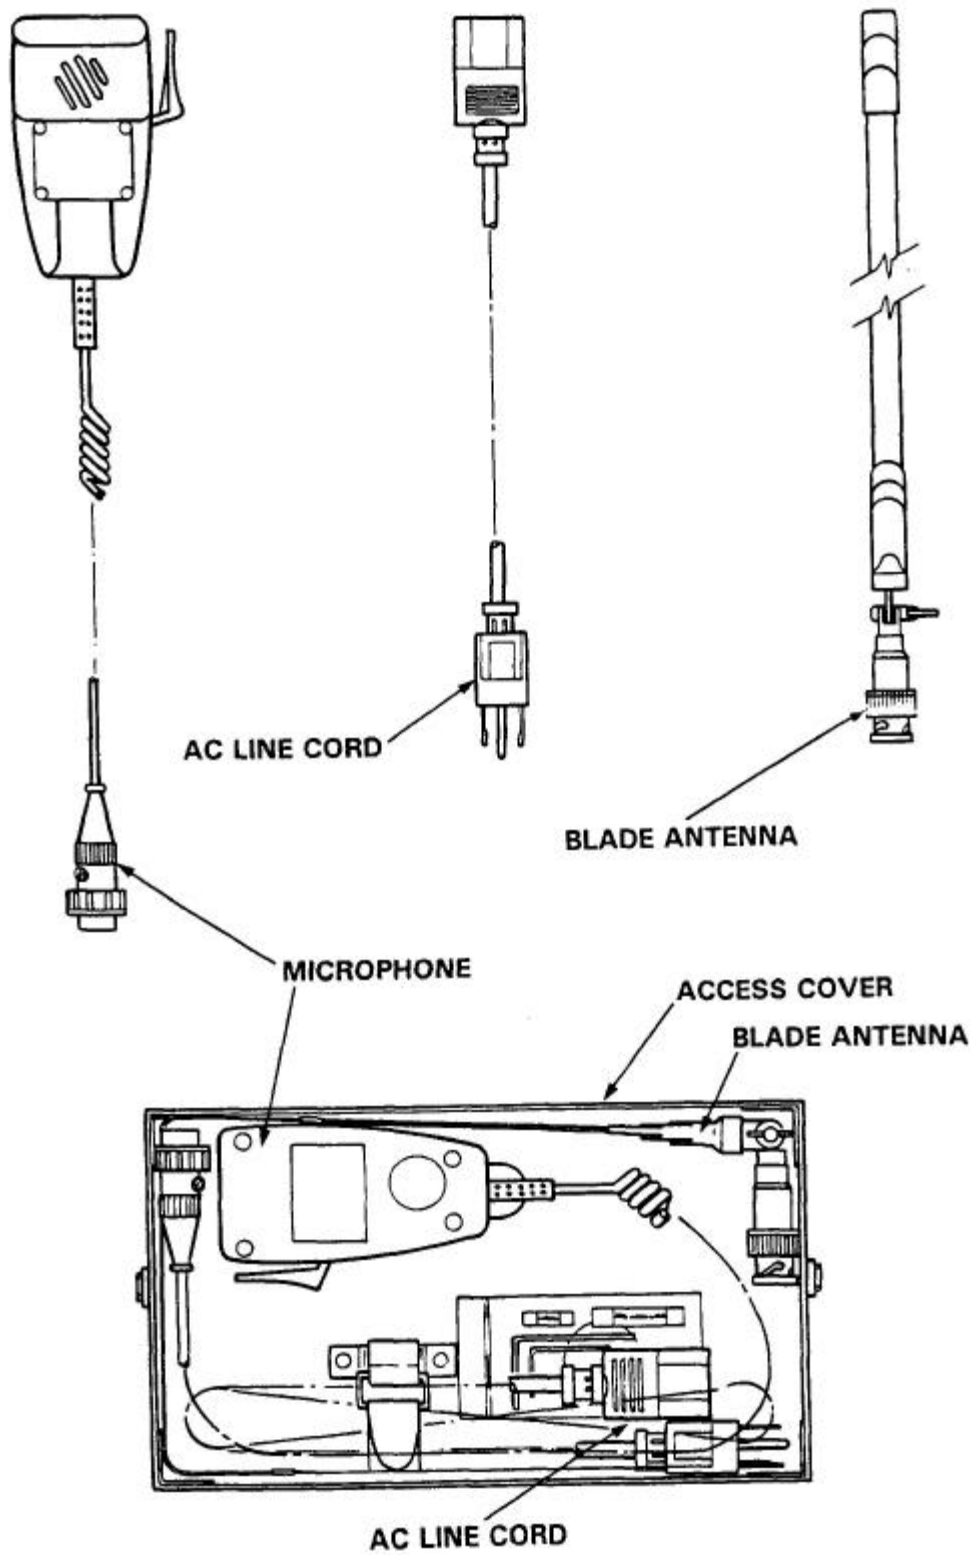

Figure 1-2 Transceiver Front Cover Assembly
A general view of the Microphone Assembly Part Number 861902-1, Series 1, is given in Figure 1-2. The microphone is a rugged hand-held microphone housed in a high impact plastic case. The dynamic microphone is a noise cancelling type with a two-stage preamplifier, press-to-talk switch, and a retractable three-core cable terminated by a three-pin, male contacts, connector which mates with the MIC/PTT connector located on the front panel of the transceiver. The microphone dc supply for the microphone is supplied by the transceiver. The microphone is stored in the front access cover for transportation.
A General View of the blade antenna Part Number 911017-1 is given in Figure 1-2. The Blade Antenna is a broad band, flexible, whip antenna that operates over the entire frequency range of 117 Mhz to 138 Mhz. The antenna mounts on the rear panel RF BNC connector. A wing nut provides convenient angle adjustment. The antenna is stored in the front access panel.
1. AC OPERATION - An AC power cord P/N 927002-1 (Refer to Figure 1-2) is supplied in the front access cover of the portable case assembly. During AC operation, the unit can be operated without batteries installed. With batteries present, the operator can elect to trickle charge the batteries during AC operation. The AC power supply can be set for 220 Vac operation via an internal jumper.